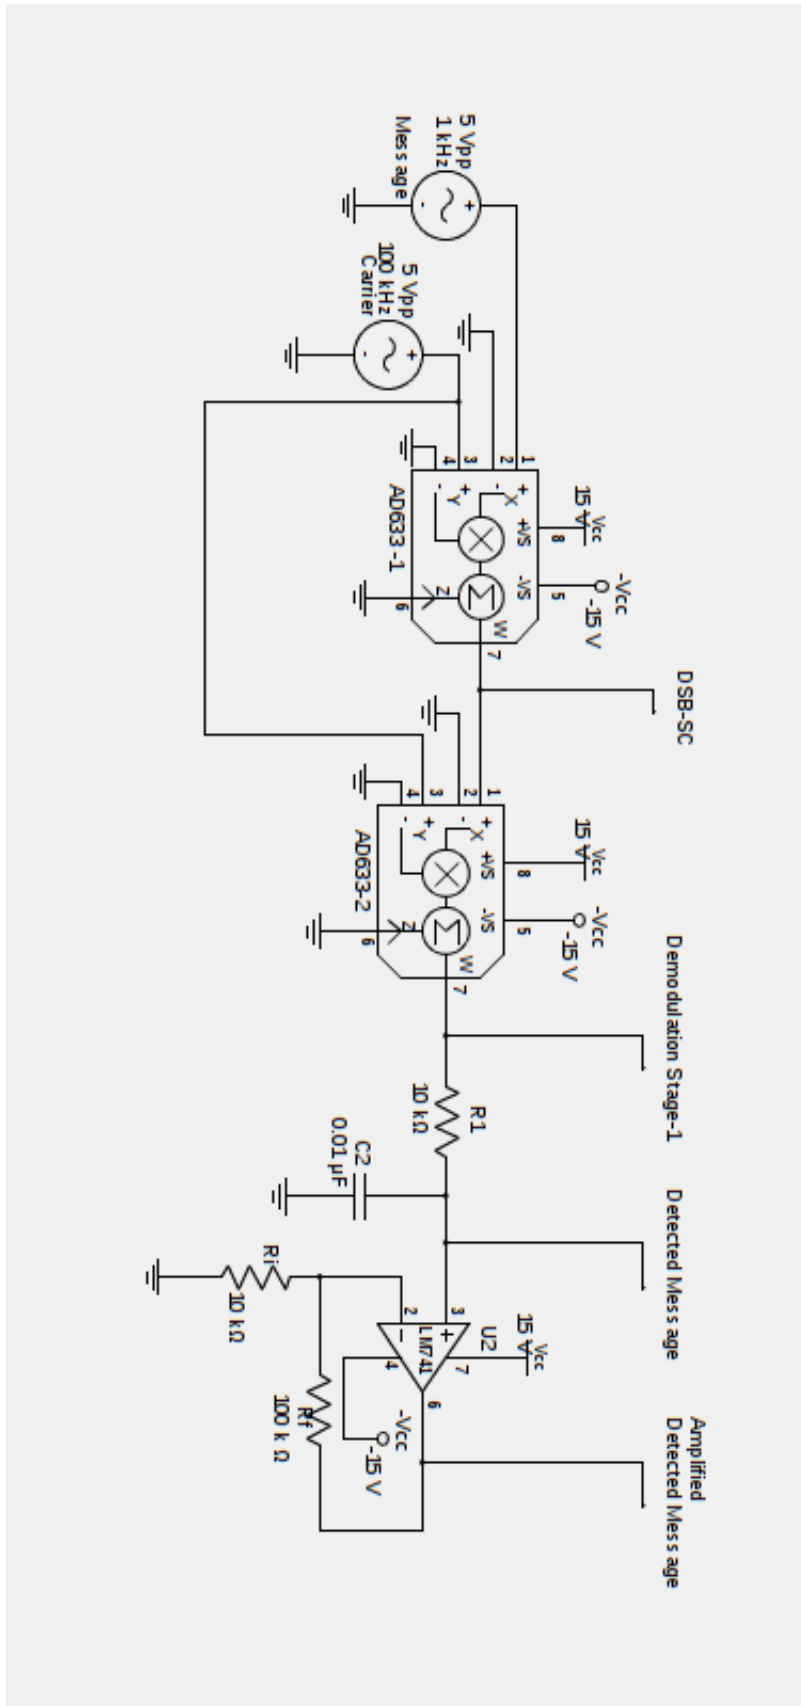

Figure 6.4: Circuit for DSB-SC generation and detection using AD633 multiplier IC
The circuit diagram for implementing DSBSC using multiplier IC is shown in figure 6.4.
- Make connections as shown in the circuit diagram, figure 6.4.